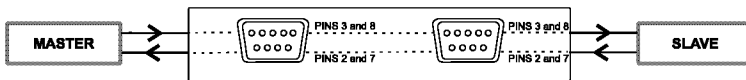

Figure 5: Bi-directional Signals I
- By using a pair of conductors, each signal travels in both directions via a balanced line between *Master / Slave* devices, as Figure 5 illustrates: